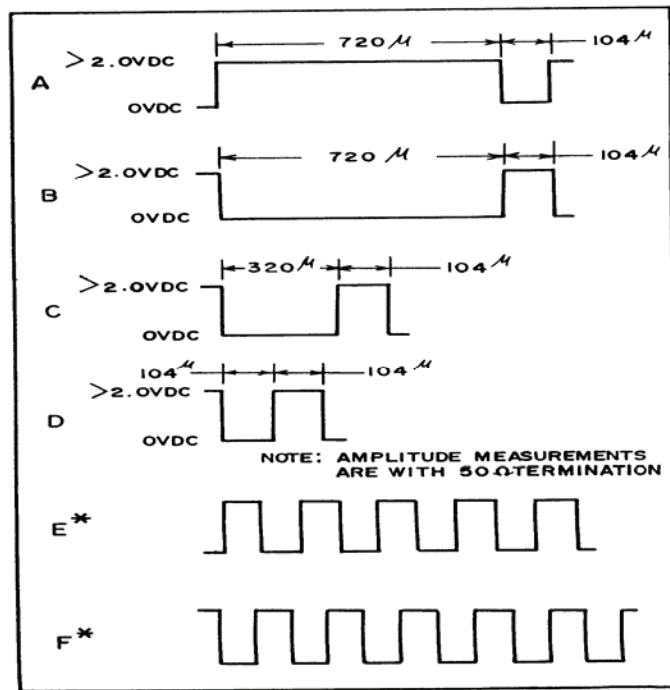

Figure 3. Transmit pattern waveforms.
- (3) Set **PATTERN** and **DATA/DATA** switches to settings listed in table 4. At each setting momentarily set **START/STOP** switch to **START**. Observe that **TEST ON** indicator is on while readout is counting, and then goes out when counting stops. After **TEST ON** indicator goes out, observe that readout and oscilloscope indications are as listed in table 4 and figure 3.